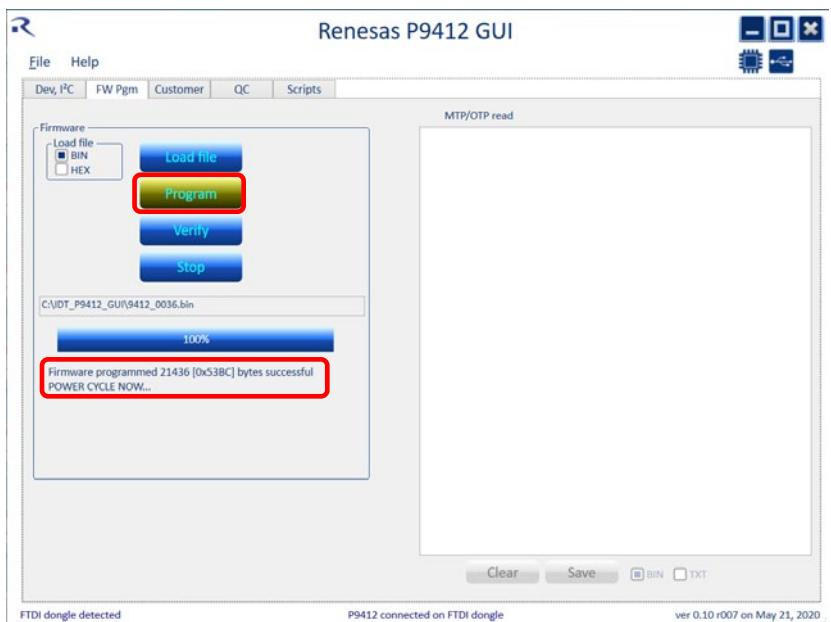

Figure 8. MTP Programming Successful
3. After loading the file, press the “Program” button, the MTP will be programmed and the GUI will indicate if successful or if there were errors. See Figure 8, which indicates that the programming was successful. If there are any errors during programming, attempt to program again.